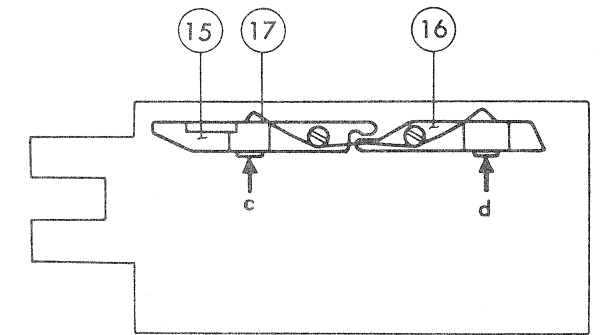
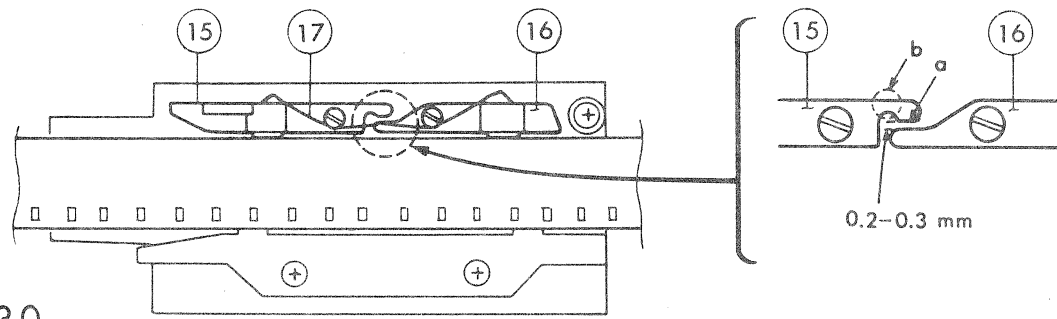

Fig.32
Fig.30
3. Install ⑮, ⑯ and ⑰ to ⑭, and apply the film to make sure that the clearance between ⑮ and ⑯ is 0.2 ~ 0.3mm as shown in Fig. 30. Grind off a section of ⑮ if the clearance is small, and bend by applying heat to [b] section ⑮ if the clearance is large.
4. Measure the tension of ⑰.
Measuring method: Measure the tension at [c] and [d] points by using a dial tension gauge (063) as shown in Fig. 32. When measuring the tension at [c] point, keep ⑯ pressed in [d] direction in order to avoid the interference from ⑯.